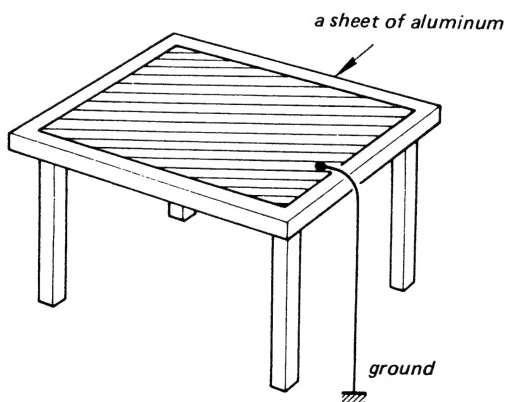

Fig. 2
2. Ground the work bench for static electricity (See Fig. 2) (Place a sheet of aluminum onto the bench.)